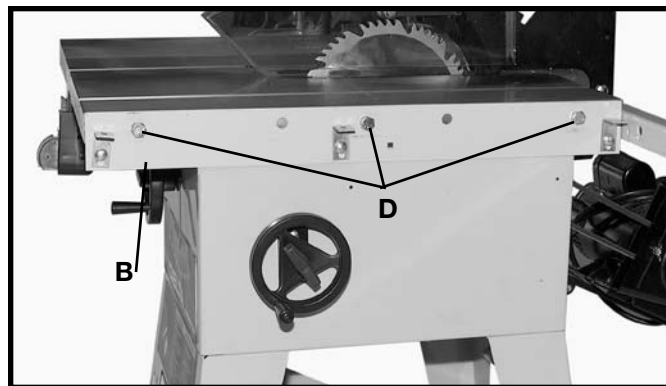

Fig. 12
9. Assemble table adapter plate (B) Fig. 12, to the right side of the saw table as shown using three 3/4 inch screws, lockwashers and hex nuts (not supplied). **IMPORTANT:** If the pre-drilled holes in adapter plate do not line up with the holes in the saw table, new holes must be drilled in adapter plate (B) and/or saw table. **NOTE:** Do not drill any hole to fasten adapter plate (B) Fig. 12, to the saw table that will be located less than two inches from either end of the adapter plate. Before tightening three screws (D) Fig. 12, place a straight edge (E) on the saw table and make certain the top of adapter plate is level with or slightly below the surface of the saw table. Also, make certain front of adapter plate (B) Fig. 12, does not extend out past the front edge of the saw table.